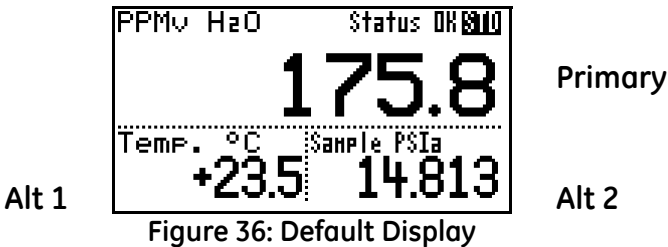

Figure 36: Default Display
*Figure 36* below shows the default display of the **Aurora H2O** window.